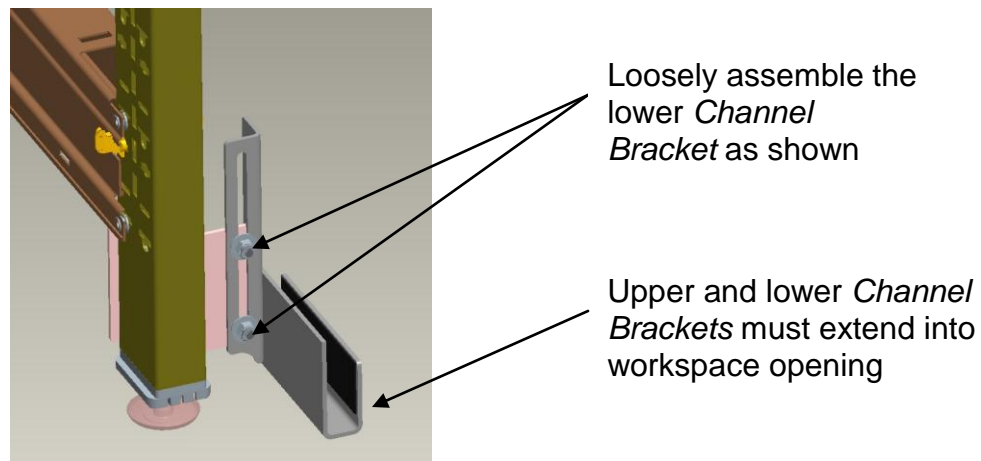

Fig. 5
6) Loosely install “lower” *Channel Bracket* (46-2475-X) as in Fig.5 up 1/2 inch from floor. Snug but do not tighten the two nylok nuts and flat washers. The *Channel Bracket* should extend into the door opening. The *Channel Brackets* are “not handed”, so this orientation is important.